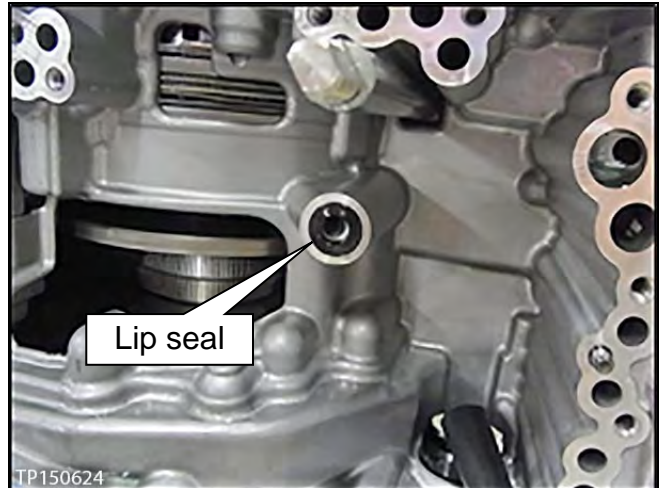

Figure 31a
7. Carefully remove the lip seal (see Figure 31a).